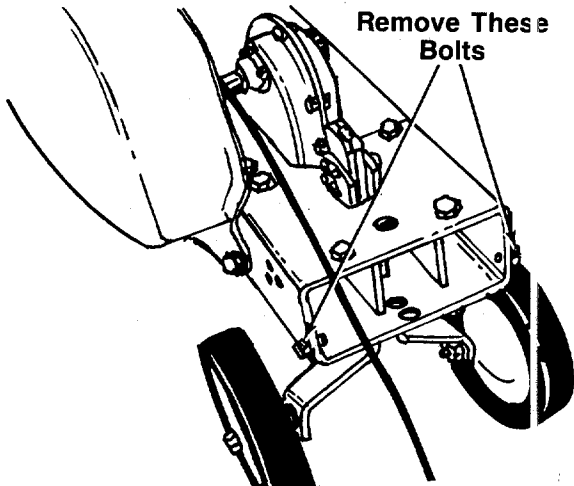

FIGURE 3.
1. Remove two hex bolts located on the rear of tiller frame. See figure 3. A 9/16" wrench is required.